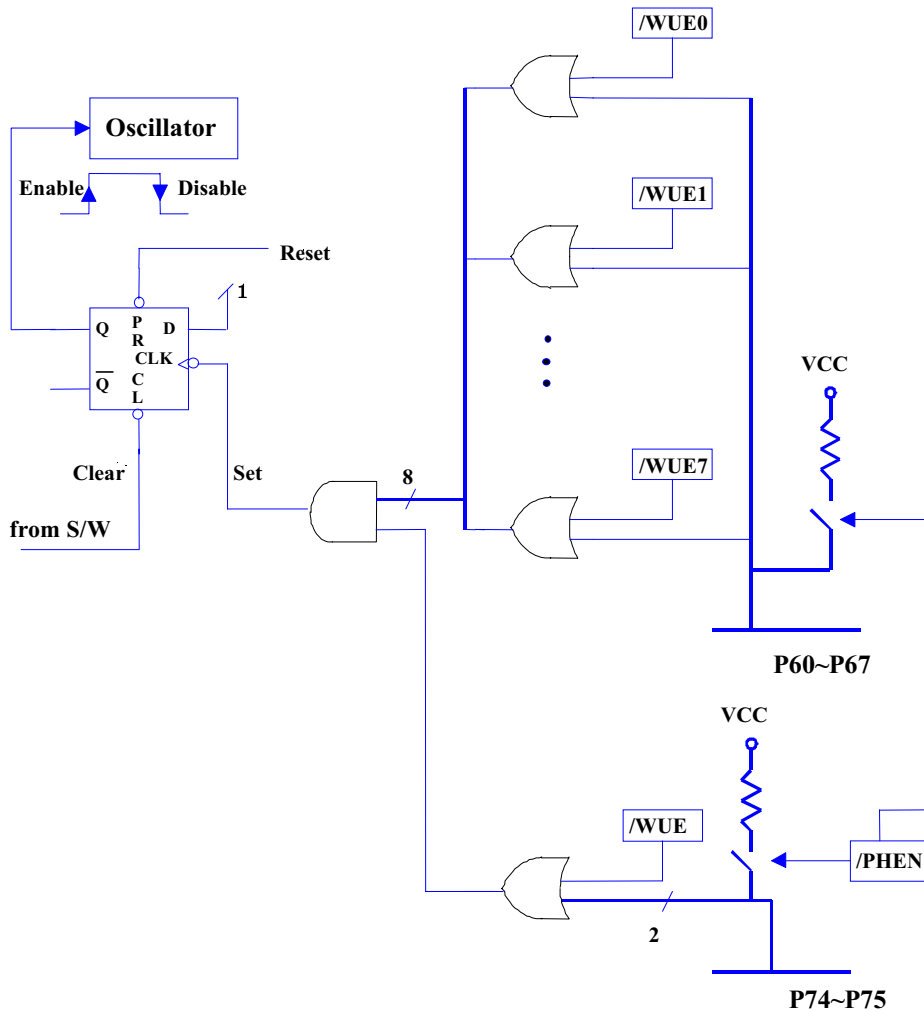

Fig. 5 Block Diagram of Sleep Mode and Wake-up Circuits on I/O Ports
18¹ ms (oscillator start-up timer (OST)) before the next program instruction is executed. The OST is always activated by wake-up from sleep mode whether the Code Option bit ENWDT is "0" or not. After waking up, the WDT is enabled if Code Option ENWDT is "1". The block diagram of SLEEP2 mode and wake-up caused by input triggered is depicted in Fig. 5. The SLPC bit can be read and written.
- (A) Any one of the wake-up pins is set to “0.” (refer to Figure 5). Upon waking, the controller will continue to execute the succeeding address. In this case, before entering SLEEP2 MODE, the wake-up function of the trigger sources (P60~P67, and P74~P75) should be selected (e.g., input pin) and enabled (e.g., pull-high, wake-up control). One caution should be noted, after waking up, the WDT is enabled if Code Option bit ENWDT is “0”. The WDT operation (to be enabled or disabled) should be appropriately controlled by software after waking up.
- (B) WDT time-out (if enabled) or external reset input on /RESET pin will cause a controller reset.